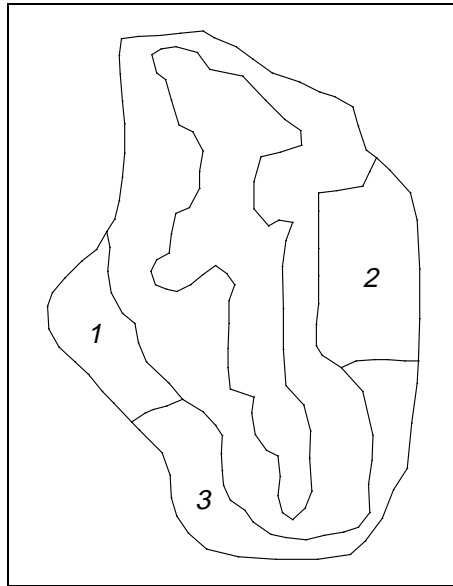

Figure 14.4 Polygons to be Selected.
2. While holding the *Shift* key, select polygons 1 and 2 shown in Figure 14.4.
6. Double click on polygon 3 shown in Figure 14.4.